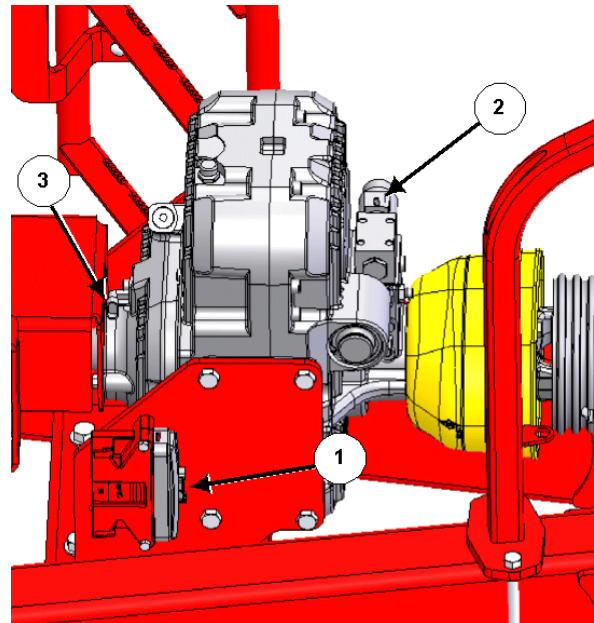

Figure 11: Connect the implement wiring harness to the gearbox
- a. Connect the end labeled 'Controller' to the controller (1), the end labeled 'Valve' to the connector clutch engagement (2) on the gearbox, and the end labeled 'Speed Sensor' to the RPM sensor (3) on the gearbox, as per *Figure 11*.